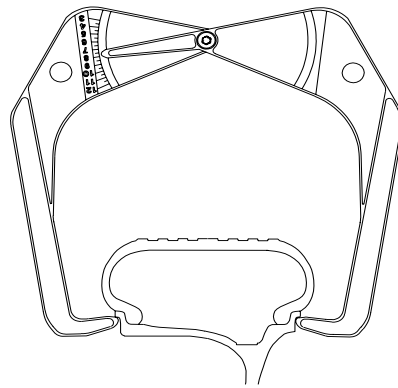

Figure 20
**4.5.2. Measure/Enter rim width** using rim width caliper. Measure wheel where corrective clip-on weight would be applied, Figure 20.